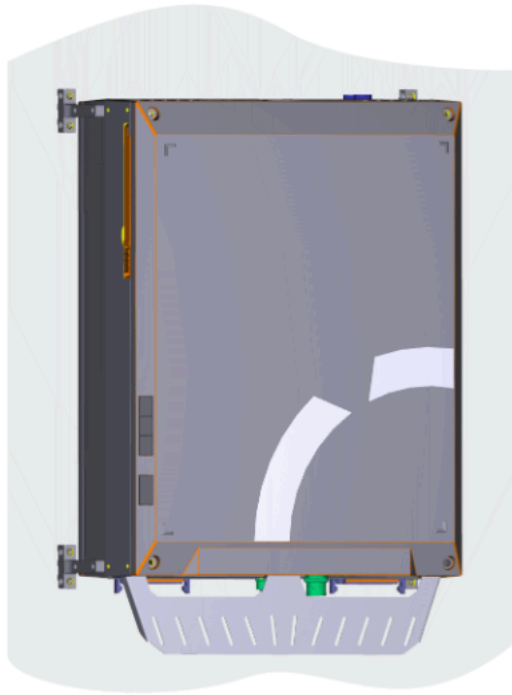

Fig. 5-5: Flat installation on wall
- Flat installation on wall (>>> Fig. 5-5)